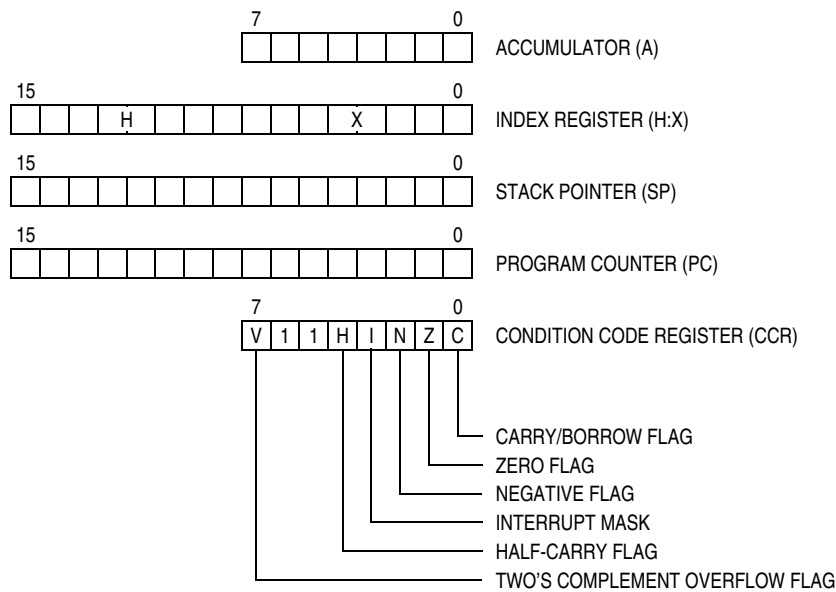

**Figure 6-1. CPU Registers**
**Figure 6-1** shows the five CPU registers. CPU registers are not part of the memory map.